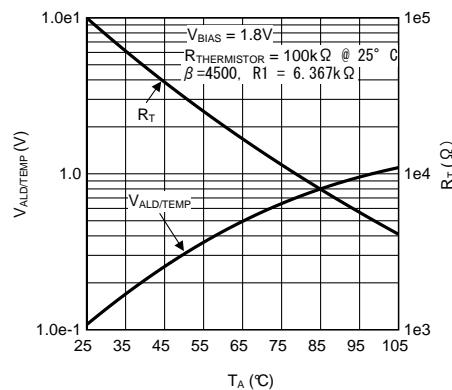

Figure 50. Thermistor Resistive Divider Response vs Temperature
- V_{BIAS} is shown in Figure 50
Setting the ALD/TEMP Sense High Register to N = 50 or hex 0x32 places the upper trip point to approximately 800 mV. Voltages higher than 800 mV prevent the flash LED from turning on. Based on Figure 50, the Sense Low Register can be set to a lower code to give a second LED current threshold (70% flash). Voltages lower than the value stored in the Sense Low Register allow a full current flash.